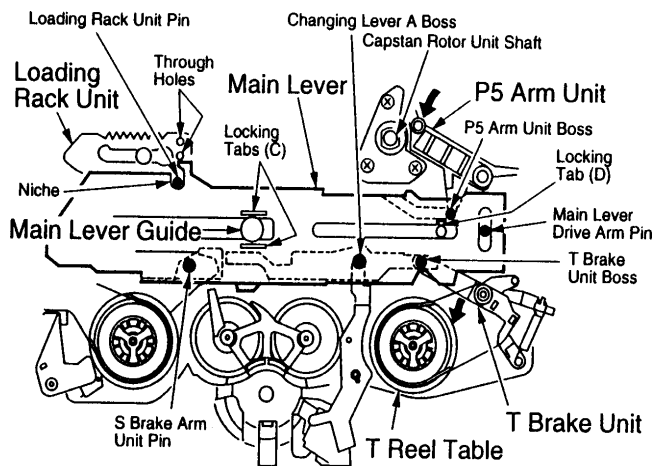

Fig. 9 - Main Lever Alignment
MECHANISM DISASSEMBLY (Continued)**Main Lever Alignment (Fig. 9)**
1. Confirm that the two (2) holes of the loading rack unit are aligned with the holes on the chassis (through holes).
4. Position the main lever so that the loading rack unit pin fits in the notch of the main lever. Confirm that pins and bosses are in the position shown in Fig. 9 and then install the main lever.
5. Push down the locking tabs (C) to lock them into place.